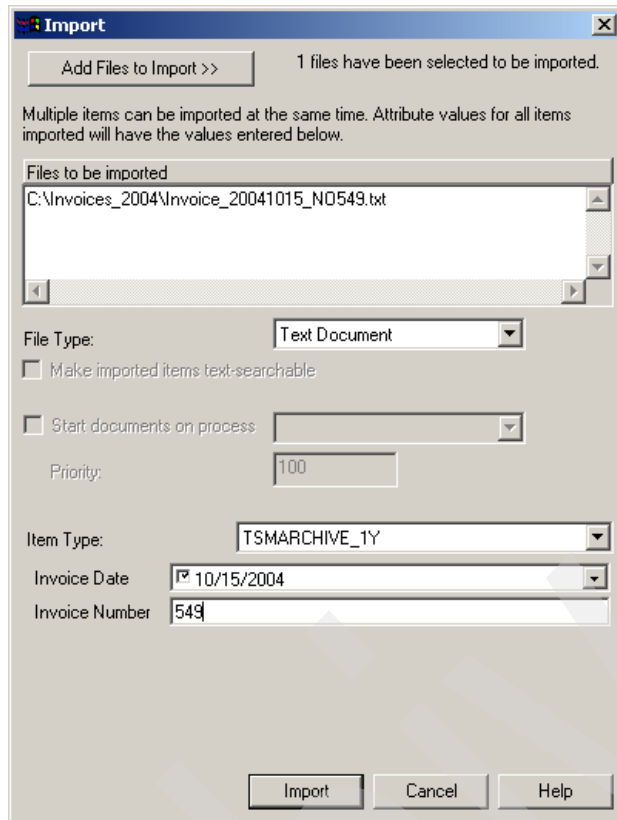

Figure 8-24 Content Manager Client: Import window
- d. Go to **File** → **Import** to open the Import window. In the Import window, click **Add Files to Import** and select the files from the list. Use the buttons in the upper part of the window to navigate to the folder where the data can be found and click one of the files you want to import. The file will be displayed in the File name field. Click **Open**. The window closes and returns you to the Import window. The Import window now displays the selected file in the Files to be imported field. In the File Type window, select the type of file you selected before. Select the item type of the file at the Item Type window, for example, select **TSMARCHIVE\_1Y** for the first import test. Fill out the other fields with meaningful information. See Figure 8-24 on page 329.